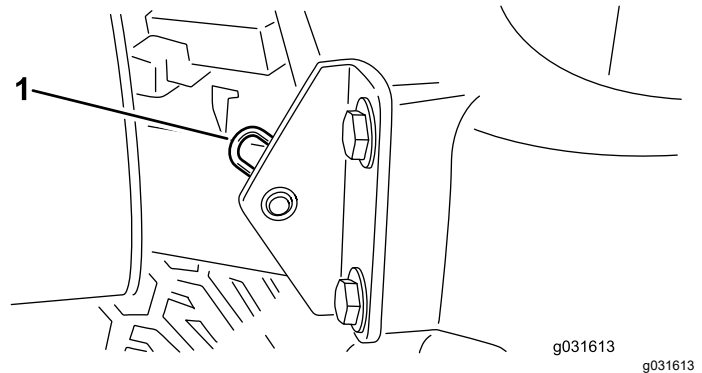

Figure 31
2. Remove the hairpin cotter securing the hood pivot to the mounting brackets (Figure 31).